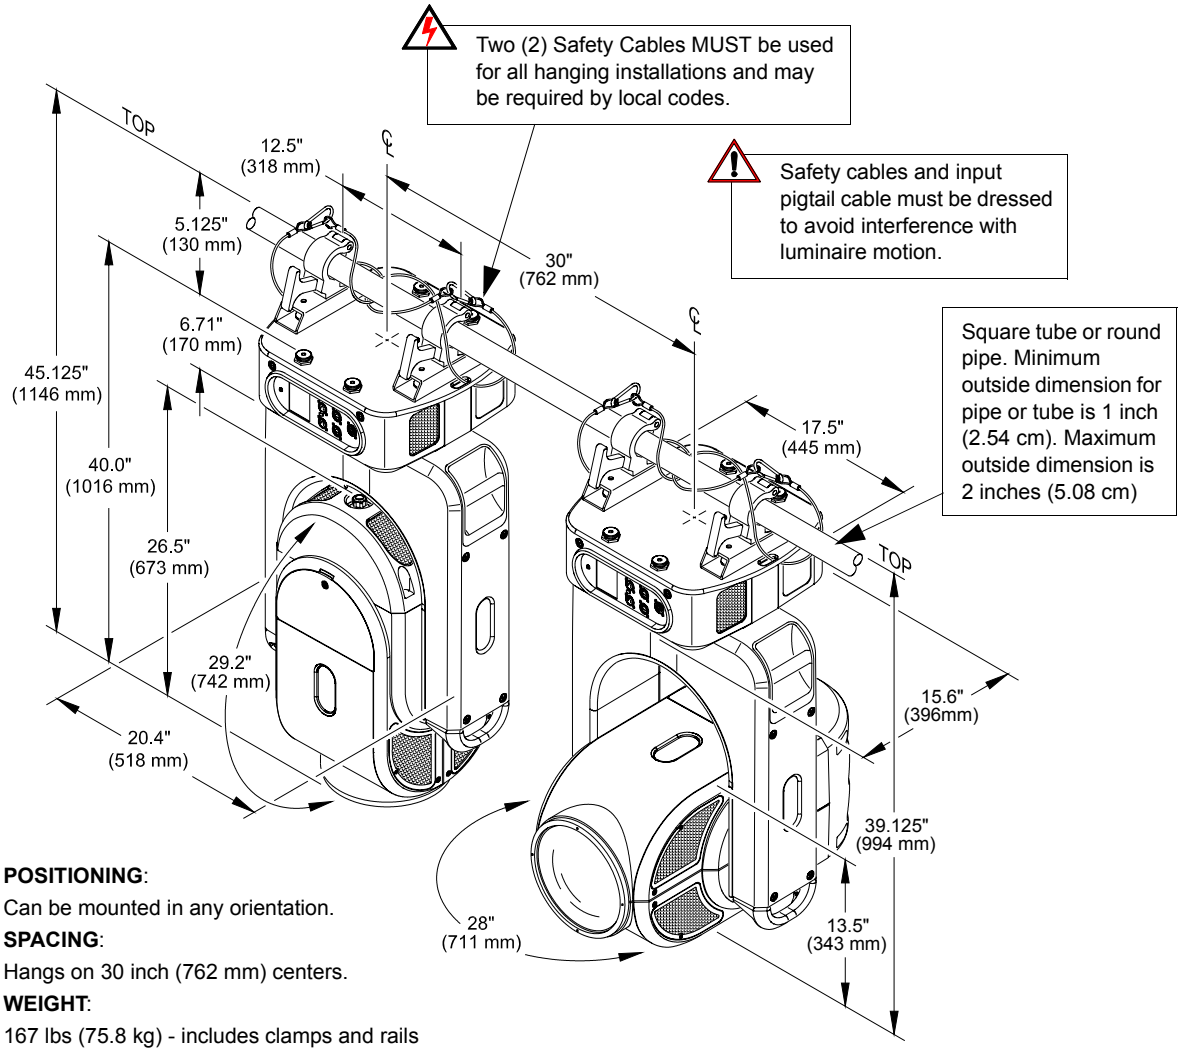

Figure 2-5: Standard Hanging Configuration and Dimensions
- Step 4. Secure in place by tightening Truss Hook wing bolts (Figure 2-5). Ensure that luminaire is fully supported.
- Step 5. Feed safety cables through mounting bracket slots and secure around pipe as shown in Figure 2-5.
CAUTION: Before applying power, be sure the luminaire is hung or positioned so that the head and yoke can move freely without restriction. Refer clearances in Figure 2-5 on page 15.